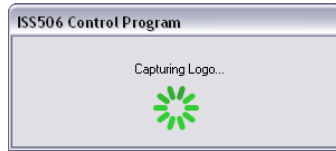

Figure 5-8 — Capturing Logo window
4. Click in the Enter logo name field, type in a name for you logo, and click the Start Capture button. The program displays a window that shows the progress of the capture (figure 5-8). Depending on the size of the logo, this can take a few minutes.